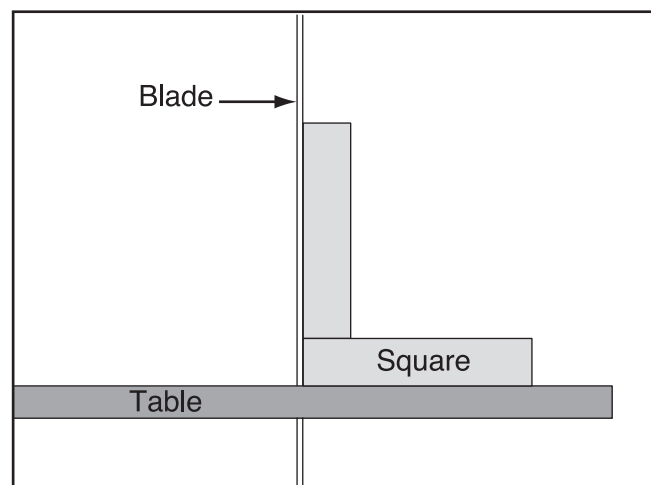

Figure 102. Squaring table to blade.
3. Loosen the guide post lock knob, raise the guide post and lock it in place, then place a machinist's square on the table next to the side of the blade as illustrated in **Figure 102**.